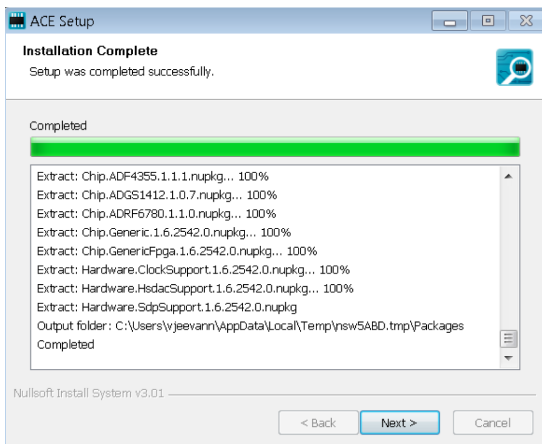

Figure 9. Installation Complete
- 9. When the installation is complete, click **Next >** (see Figure 9), and then click **Finish** to complete the installation process.